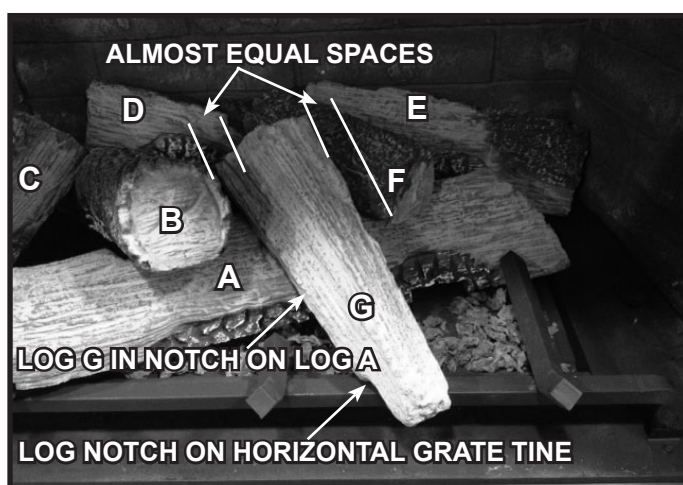

Figure 11. Log G Installed
6. **(LOG G):** Place Log G into the appliance as shown in Figure 11. The notch on the bottom of the log should rest on the horizontal grate tine, approximately halfway between the middle and right grate tines. The top of Log G rests in the notch of Log A. It will be spaced almost equally between Logs B and F.